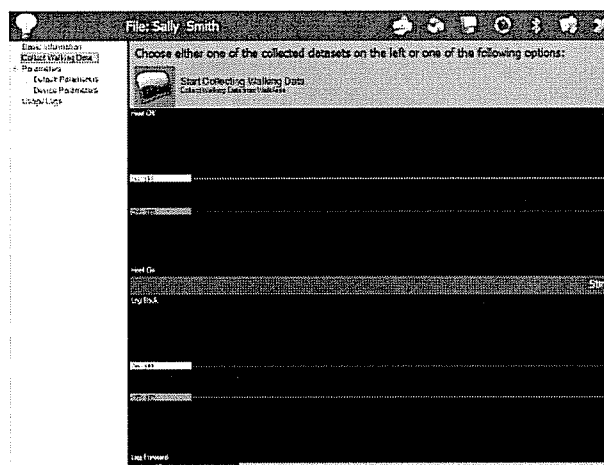

Figure 19 – Collect Walking Data screen.
- Click on '**Collect Walking Data**' from the list on the left of the screen (Figure 19).